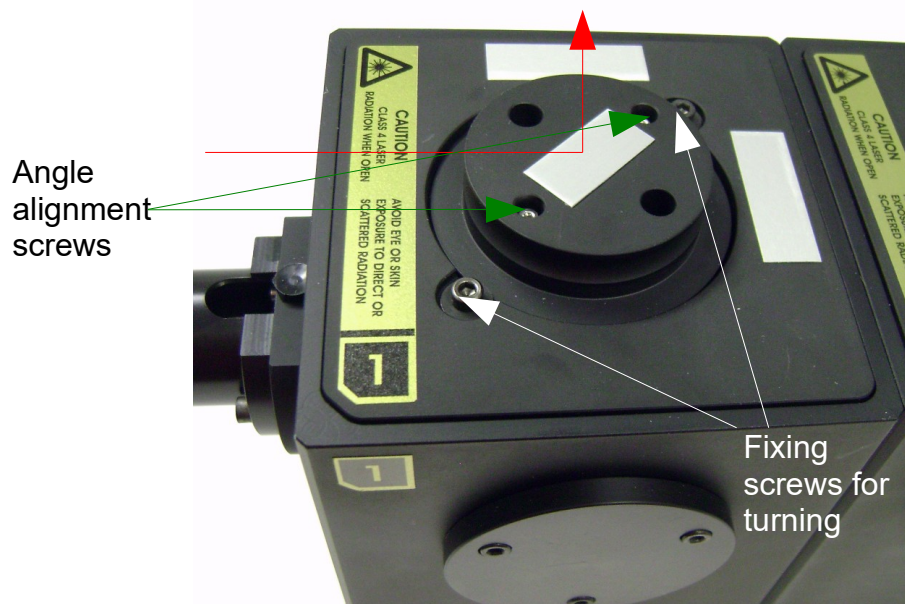

Fig. 7.3: One of the two screws to remove the shielding cap.
1. Please note that an alignment of the Filter Holder effects only the detector which gets the light deflected by the dichroic inside the Filter Holder (see red arrow in Fig. 7.3).
4. Set everything up to detect a constant count rate of 100 kcps at the detector, which gets the light deflected by the dichroic inside the Filter Holder (see red arrow in Fig. 7.3).
The two angle alignment screws indicated with the green arrows in Fig. 7.3 press from both sides against the plate which is holding the dichroic. By fastening one screw while loosening the other the angle of the dichroic can be changed.
The big round knob at the filter holder can be turned when loosening the fixing screws marked by the white arrows in Fig. 7.3.
13. Mark now the present position with some marker as indicated by the blue line in Fig. 7.3. By this means the present position can be easily recovered.
14. Now loosen the two screws marked by the white arrows in Fig. 7.3 slightly. Now you can turn the big round knob a few degrees and optimize the count rate.
15. If the count rate is maximized you can fix the two screws marked by the white arrows in Fig. 7.3.